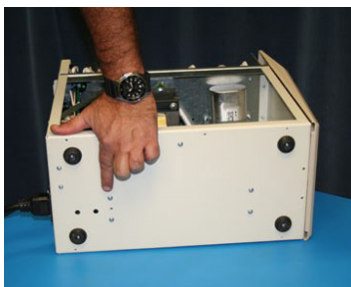
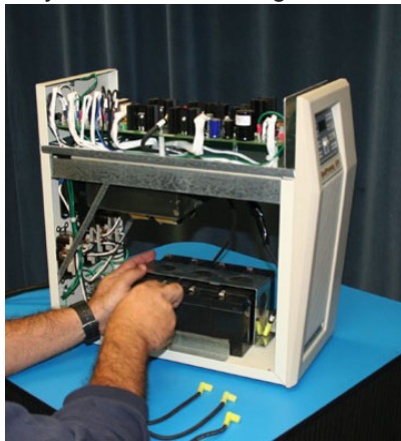

Fig 10.
Fig 12.
10. Place the UPS back on it's right side to gain access to the battery bracket mounting screws. Using a #1 or #2 Philips screwdriver, remove the 4 screws as shown. Fig 10. and negative terminals at the same time. Fig 12.
12. Remove the bracket by lifting straight up. Note: the bracket may seem tight against the batteries, you may use a non-metallic object to help pry the bracket up using a little leverage. Try not to let the bracket touch the battery terminals. Not to worry if you do - there is little risk of short circuit as the bracket could not touch positive Batteries are now ready to be removed. Fig 12.